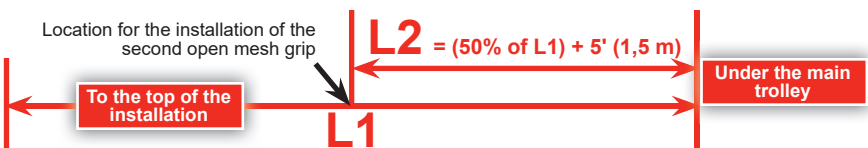

fig. 8.58
- 10- Determine the location for the installation of the second open mesh grip by calculating the distance ("L2") corresponding to the operational length of the cable ("L1") **PLUS 5' (1,5 m)** (fig. 8.58). Install the second open mesh grip at that location on the cable.